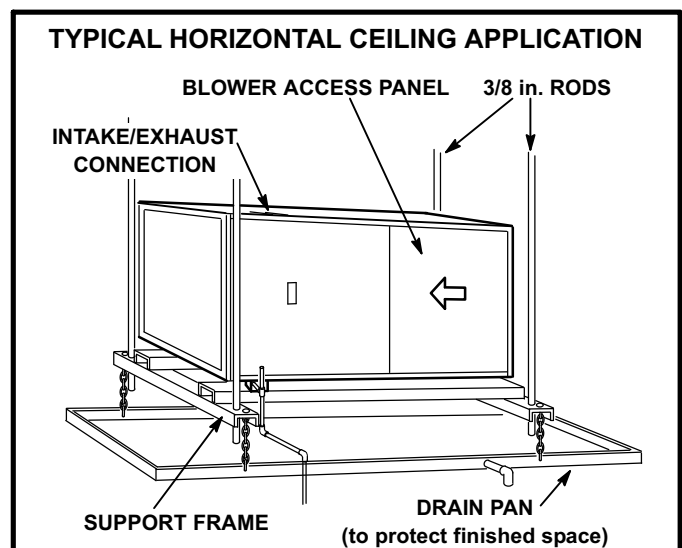
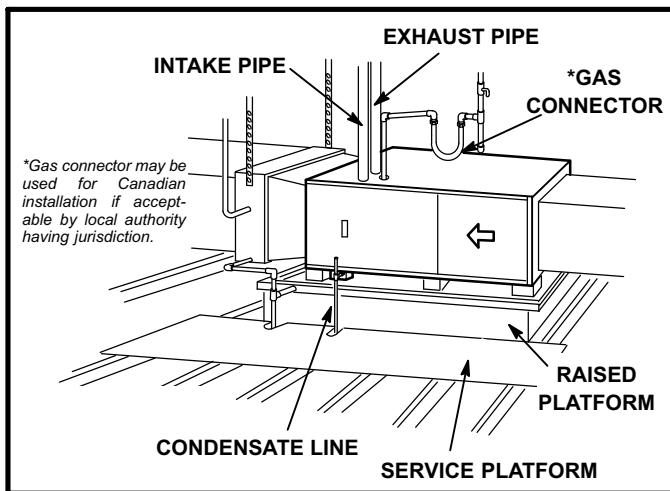

FIGURE 18
FIGURE 19
The G61MP may also be installed as a unit heater. Either suspend the furnace as shown in figure 18, or install the furnace on a field-fabricated raised platform. The unit must be supported at both ends and beneath the blower deck to prevent sagging.
- 5 - Mount unit on support frame as shown in figure 18.
- 7 - If unit is suspended above finished space, hang the field-provided drain pan below the support frame as shown in figure 18. Leave 5-1/2 inches for service clearance below unit for condensate trap.
- 4 - Set unit in drain pan as shown in figure 19. Leave 5-1/2 inches for service clearance below unit for condensate trap.
The G61MP may also be installed as a unit heater. Either suspend the furnace from roof rafters or floor joists, as shown in figure 18, or install the furnace on a field-fabricated raised platform, as shown in figure 19. The unit must be supported at both ends and beneath the blower deck to prevent sagging. The condensate trap must be installed where it can be serviced at a later date.